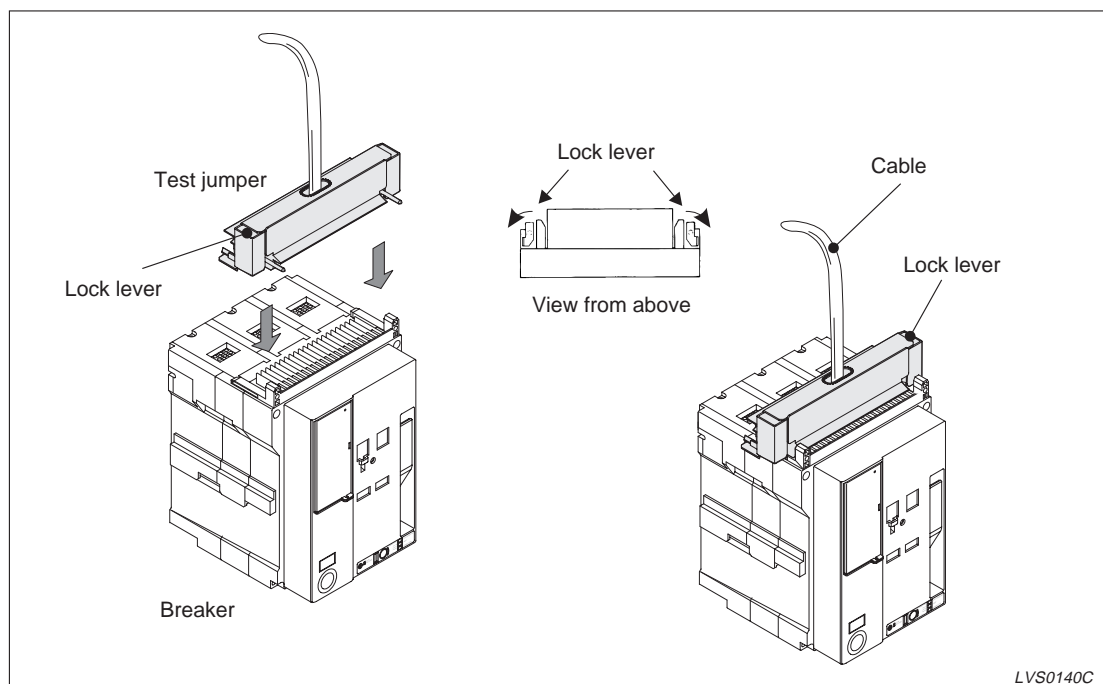

Fig. 4-68: Operation check
- ① Turn the lock lever in the direction to outside the test jumper (see arrows in fig. 4-68). Insert the test jumper horizontally.
- ② After inserting the test jumper, turn the lock lever towards the direction of the breaker in order to prevent it from removing (see fig. 4-68).